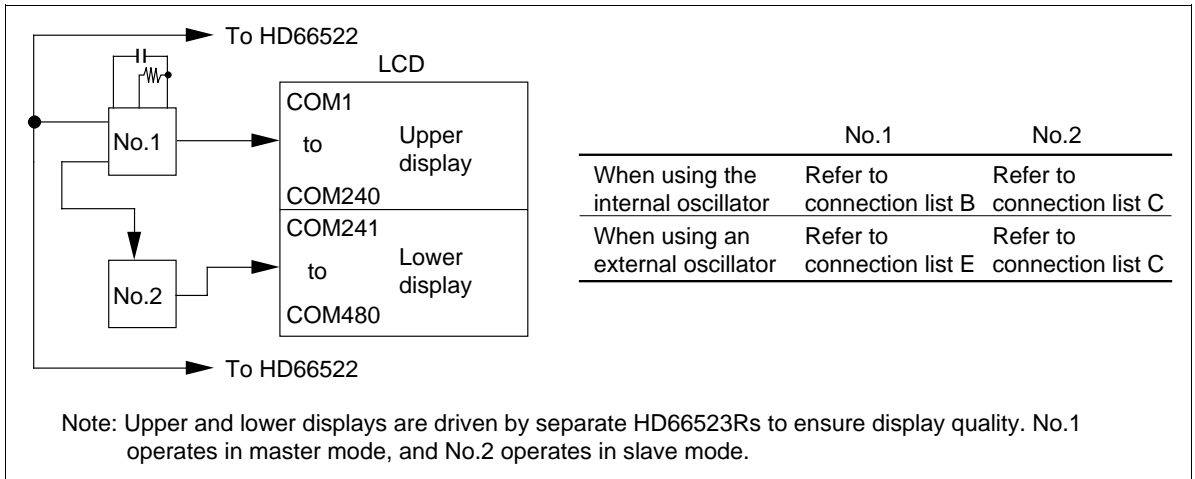

Figure 6 System Configuration When Using a Two HD66523R
- When two HD66523Rs are used to configure a large display (Figure 6)